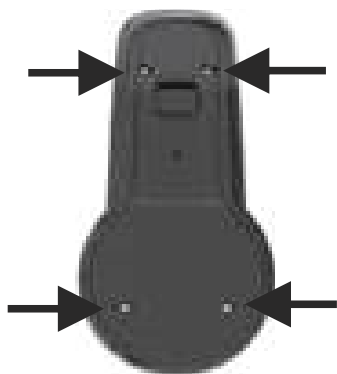

FIGURE 2
5. Wall mount (8) assembling – look at Figure 2